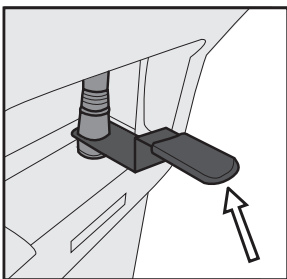

Figure 4
2. Disconnect battery using the black battery connector plug. Firmly grip handle and lift straight up to unplug (Figure 4).